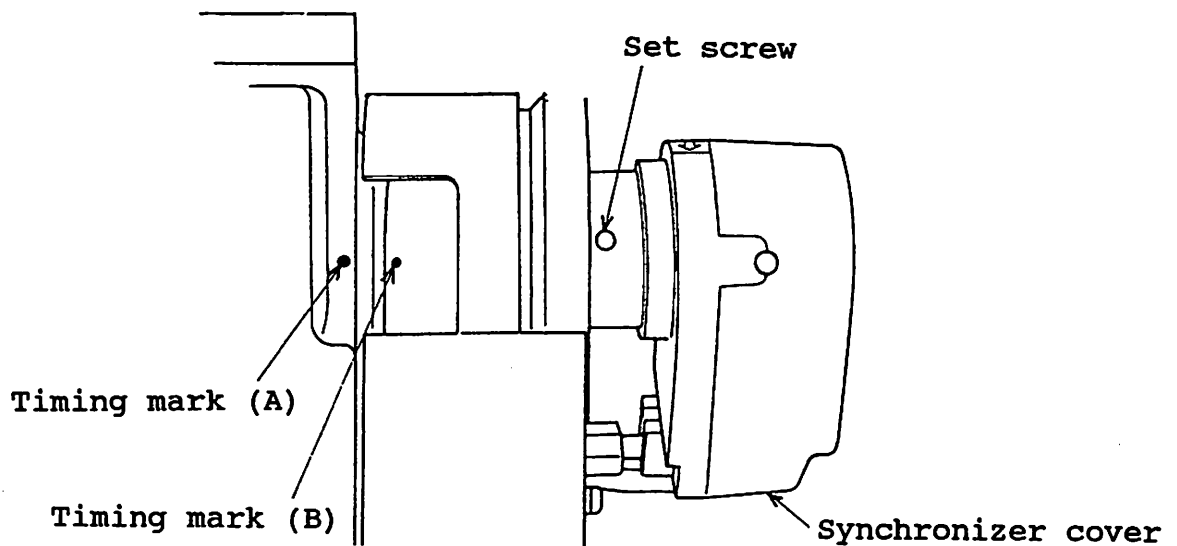

Fig. 9.22
- (1) Upon completion of the stitching, the sewing machine should stop with timing mark (A) on the arm aligned with timing mark (B) on the pulley. (See Fig. 9.22)
- (2) If the deviation between these two marks is 3 mm or more, loosen the synchronizer coupling set screw and turn the coupling to adjust the stop position. Turning the coupling clockwise delays the stop position; conversely, turning it counterclockwise advances the stop position.
- (3) If the needle bar stop comes too early, the needle thread may disengage from the needle eye when stitching is commenced. Conversely, if it is delayed, the needle will stop at a lower position which may mean that the wiper will be caught by the needle or that the movable knife will not move since the cam follower roller of the thread trimmer cannot enter the cam groove.